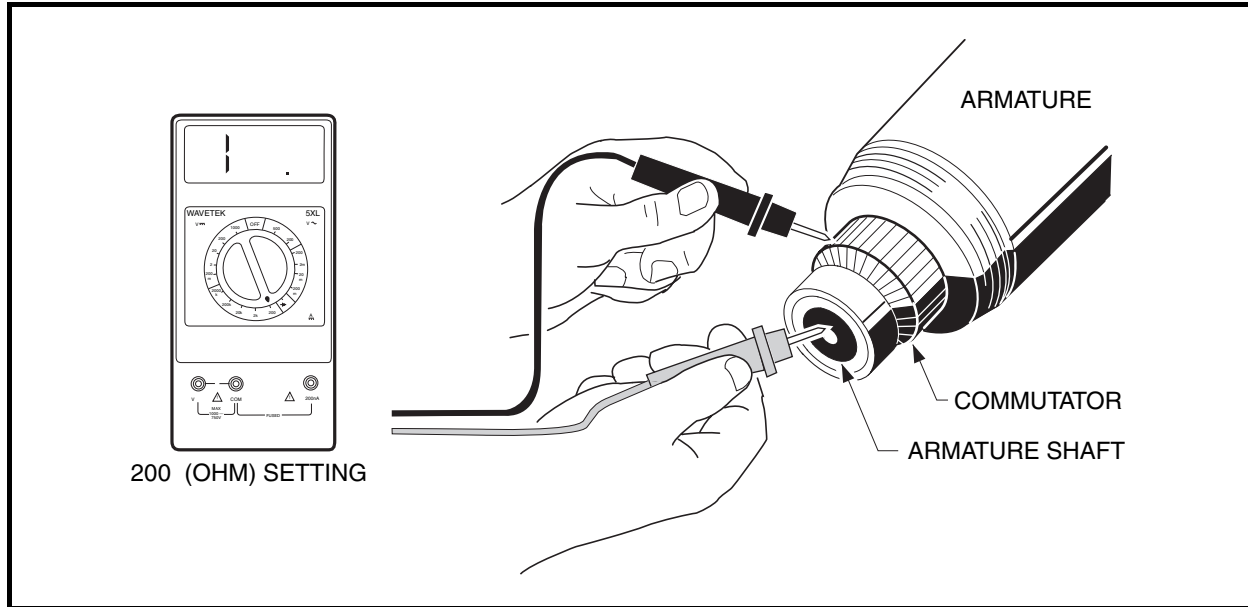

Figure 14-12 Armature Ground Test
1. Using a multimeter set on 200 ohms, place the positive (+) probe on the commutator bars and the negative (–) probe on the armature core. The reading should be no continuity. If the reading is incorrect, replace the armature and the two bearings (Figure 14-12, Page 14-8).